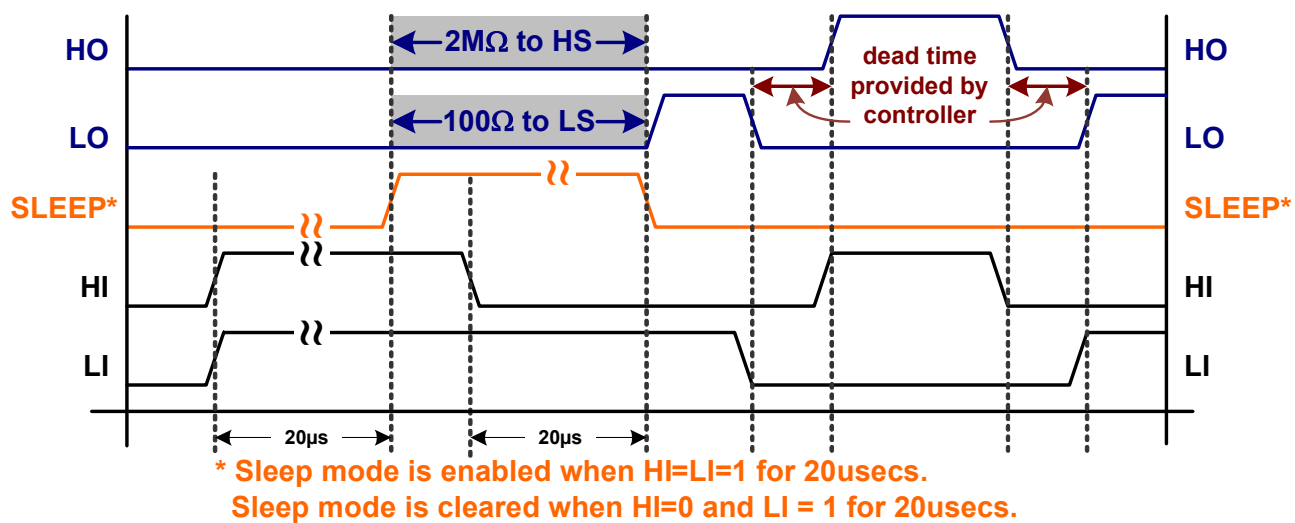

FIGURE 4. SLEEP MODE ENABLED OR CLEARED BY HI AND LI INPUTS
| Time Delay to Set Sleep Mode (Note 14, Figure 4) | t_{SlpS} | HI = LI = 0 \rightarrow 1 | | 17 | | 9 | 27 | μs |
| Time Delay to Reset Sleep Mode (Note 14, Figure 4) | t_{SlpR} | HI = 0, LI = 0 \rightarrow 1 | | 17 | | 9 | 27 | μs |
14. When HI and LI are on simultaneously, HO and LO are never on simultaneously. This feature is intended to initiate sleep. This feature cannot be used to prevent shoot-through for normal alternating switching between LI and HI. Dead time must be provided when HI = 0 \rightarrow LI = 1, or LI = 0 \rightarrow HI = 1. See Timing Diagrams (Figure 4).